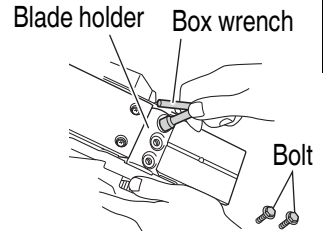

Fig. 15
- (1) As shown in **Fig. 15**, use the box wrench to loosen the three bolts used to retain the carbide blade, and remove the blade holder.
- (1) As shown in **Fig. 15 on page 21**, use the accessory box wrench to loosen the three bolts used to retain the blade, and remove the blade holder.